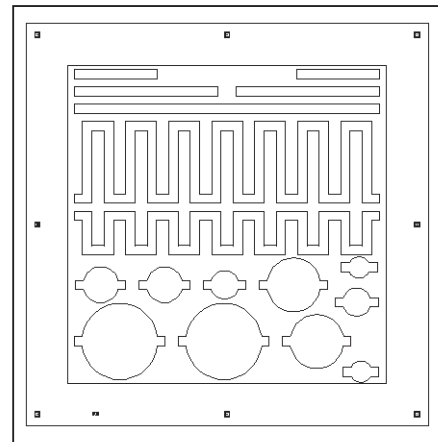

Figure 3.5.1: Buried Ground Plane, Metal Coverage <50%
1. Ground and power plane layout recommendations – keep metallization to <50% of ceramic area for better adhesion of ceramic layer to ceramic layer and for better consistency of shrinkage through a panel; for buried metal layers, see example in Figure 3.5.1.